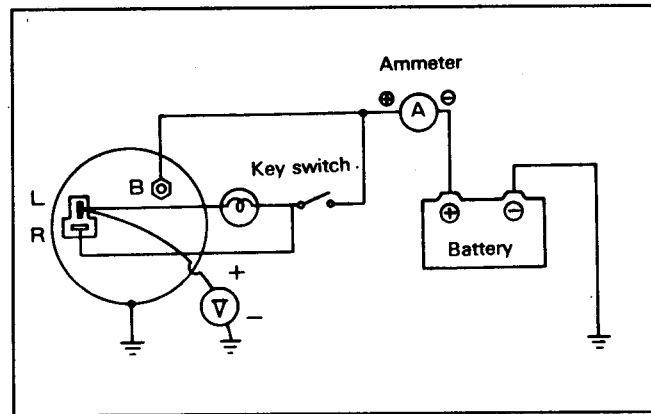

Figure 26
1. Install an ammeter between the positive (+) terminal of the battery and terminal "B" of the alternator (Fig. 26).